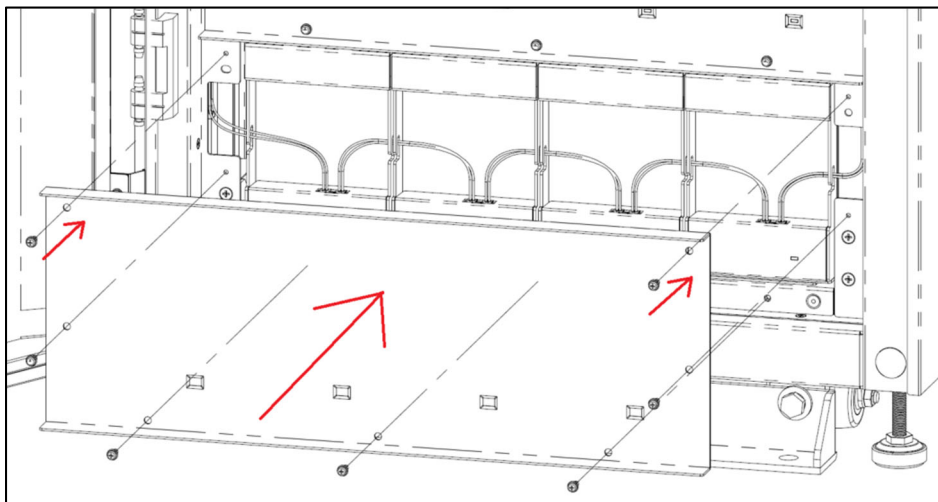

Figure 20: install the battery cover into the cabinet
- (7) Install the battery cover with seven screws when you finish inserting the battery modules with cables. See **Figure 20**.